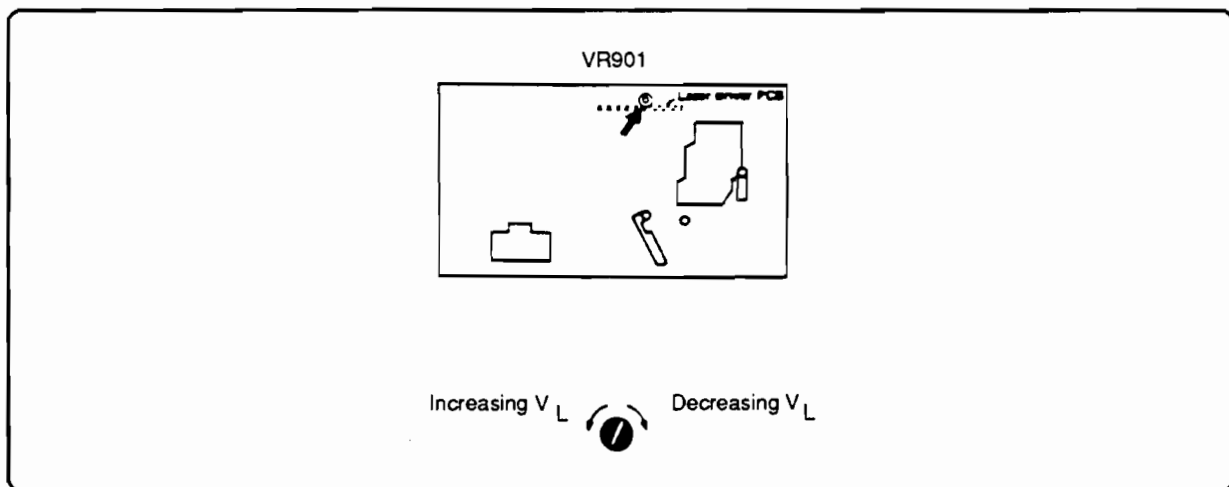

Figure 7-45. Laser Driver PCA Vlight Adjustment
- c. Set the Mode Select switches 1 through 4 to automatic (all left) and go back to step 11 (see Figure 7-45).